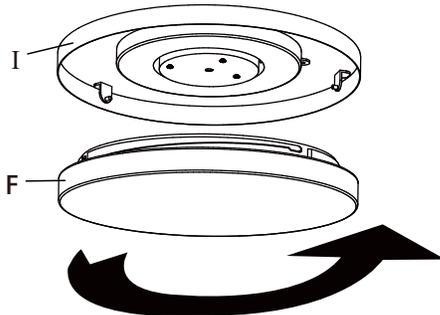

Figure 15
- Install the lamp shade (F) onto the light kit (I) by gently twisting and locking into position. (Figure 15)